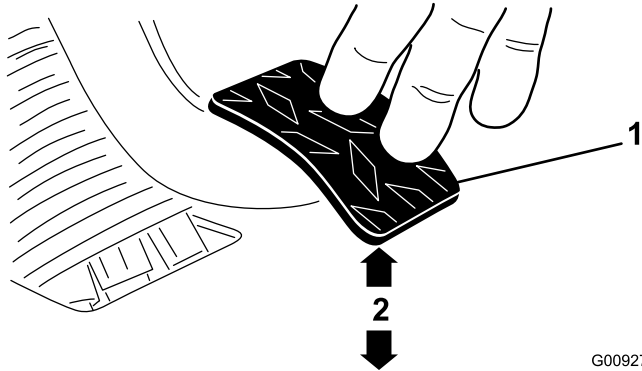

Figure 55
3. Adjust the jam nuts/or ball joint until the back rear edge of the clutch pedal is $3.75'' \pm .12''$ from the top of the floor plate diamond pattern, when an 4 lb. force is applied to the pedal (Figure 55).